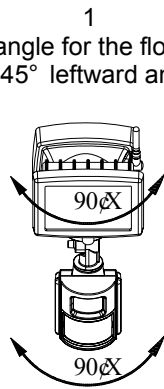

FIGURE 4
- The adjustable angle for the floodlight and PIR Camera can be 45° leftward and rightward. (FIGURE 4)